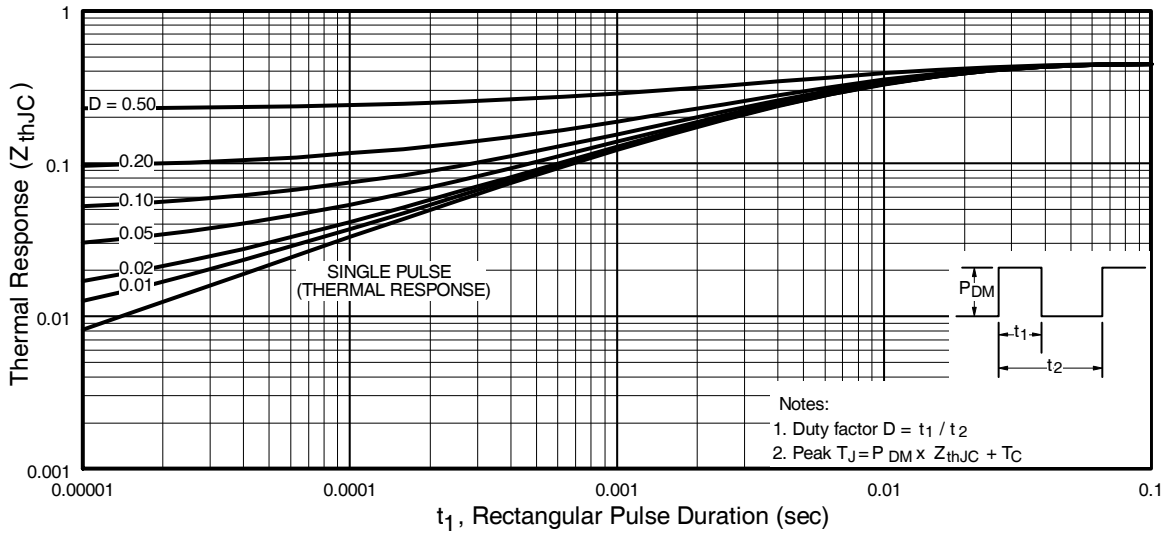

Fig 11. Maximum Effective Transient Thermal Impedance, Junction-to-Case
- ① Repetitive rating; pulse width limited by max. junction temperature. (See fig. 11)
- ② Starting T_J = 25°C, L = 85μH
$Z_{thJC}(D, t_{av})$ = Transient thermal resistance, see figure 11)